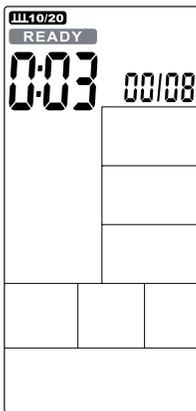

Figure 24
2. The cycle timer will count down from 3 to 0, and the console will start. The buzzer will beep once per second, and the **READY** icon will flash during the countdown (see Figure 24).